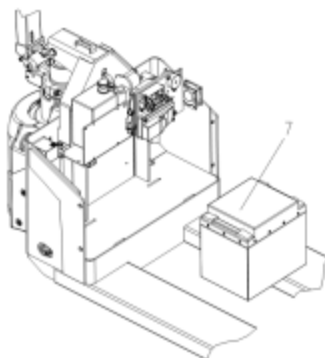

Fig. 15
- (Fig.15) Remove old battery 7, then put the new one following above steps.